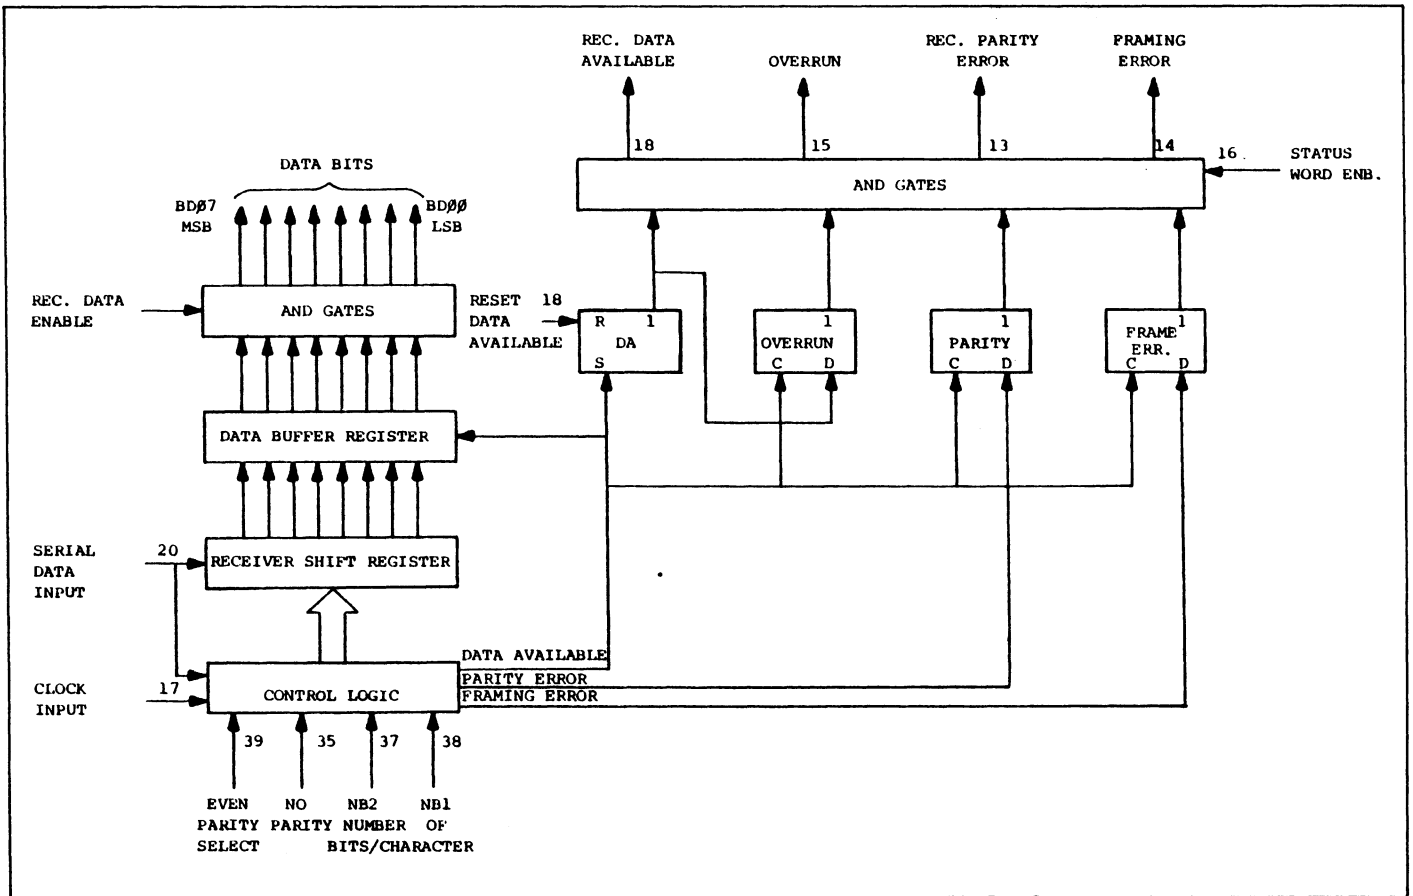

FIGURE 4-6: UART RECEIVER, BLOCK DIAGRAM AND SIMPLIFIED TIMING DIAGRAM
A simplified block and timing diagram for the UART receiver is shown in Figure 4-6. When serial asynchronous data is sent to the Serial Input (SI) line, the UART searches for a high to low (mark to space) transition on the SI line. If the high to low transition is detected, the receiver searches for the center of the start bit as the first sampling point. If the point is low (space), the signal is considered a valid start bit, and sampling continues at the center of the subsequent data and stop bits.